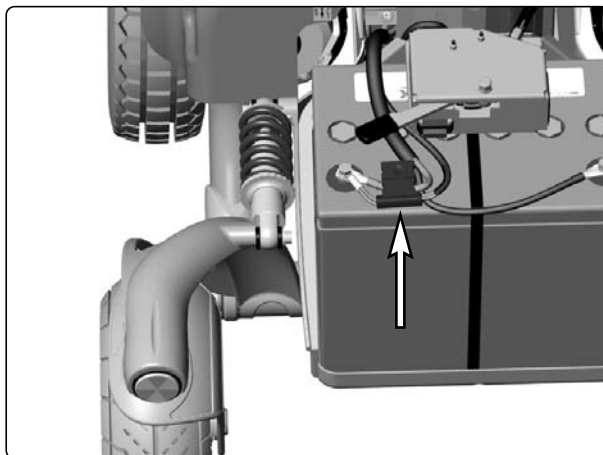

Fig. 75. The SLS-fuse is fitted by the positive battery pole on the front battery.
3. Remove the chassis front cover, see page 7. The SLS-fuse is fitted by the positive battery pole on the front battery, see Fig. 75.